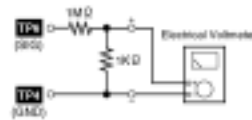

Fig. 14
1. Connect an electrical voltmeter. (Cf. Fig. 9) (Cf. Fig. 14)